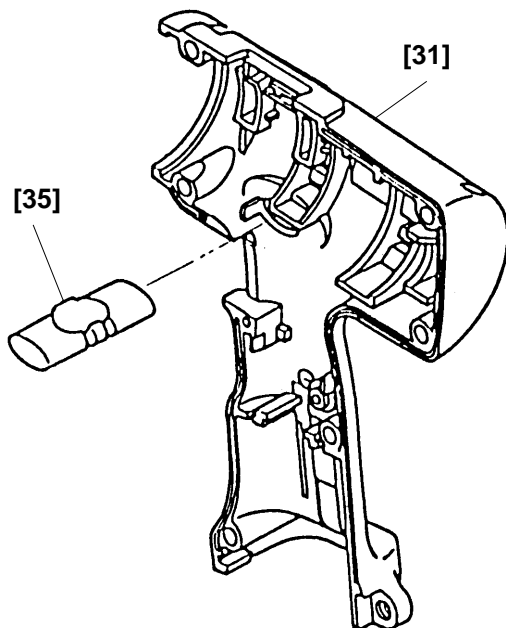
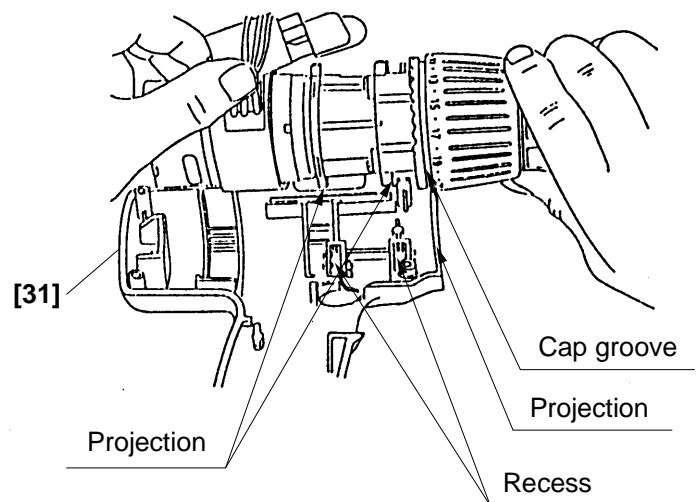

Fig. 17
Fig. 18
- (f) Install the Pushing Button [35] into Housing (B) [31]. (See Fig. 17)
- (g) Install the assembly from (e) into Housing (A) [31].
Note that the projections on the Front Case [9] and the Motor Spacer [25] are engaged in the recess in Housing (A) [31] and the projection on Housing (A) [31] is engaged in the groove in the Cap [4]. (See Fig. 18)